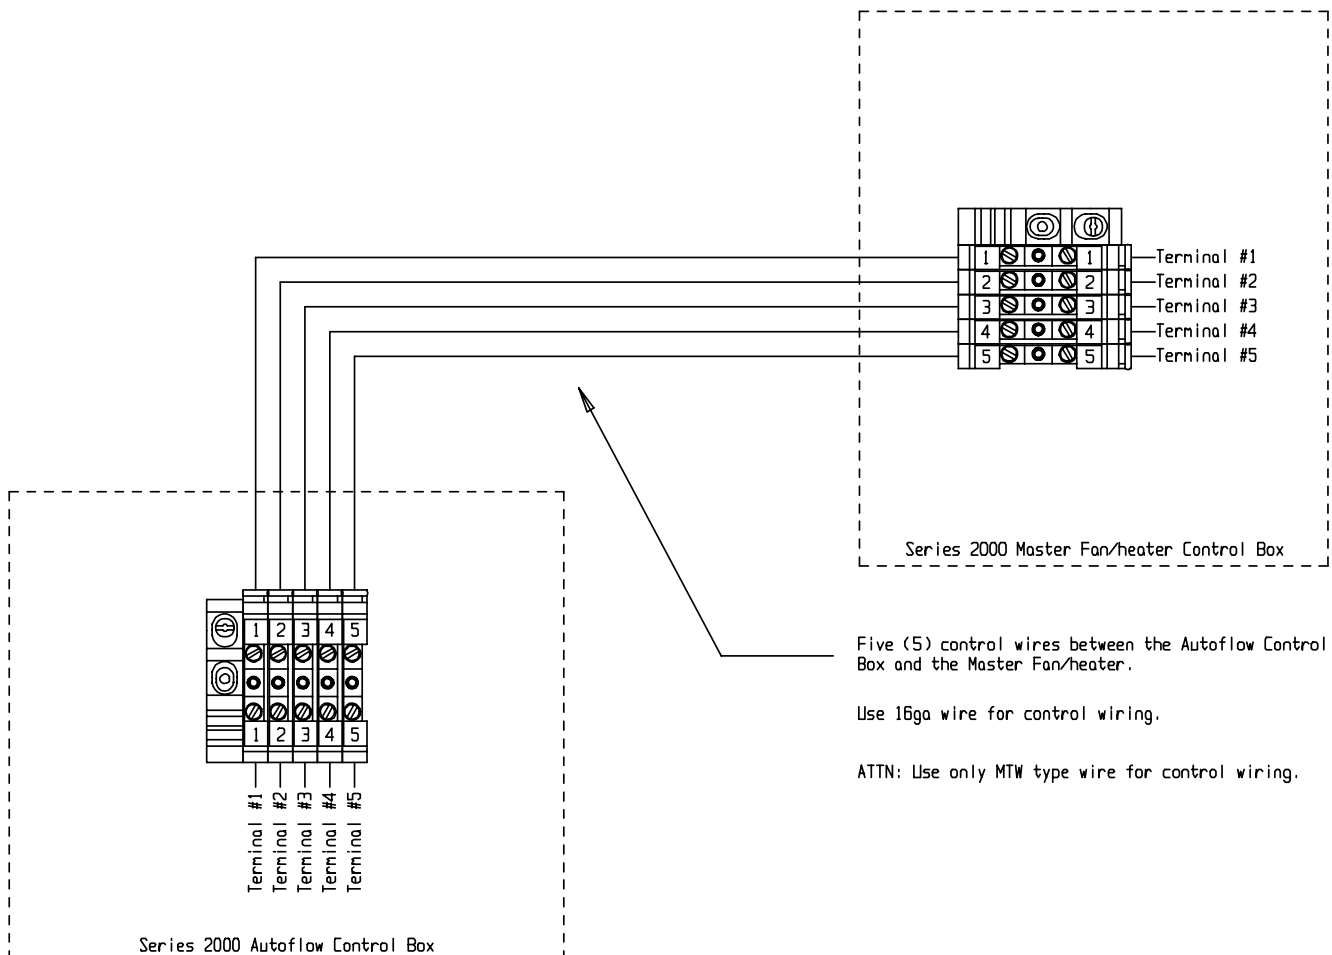

Figure 19
- 1) Run five (5) control wires from the Autoflow Control Box to the Master Fan/Heater Unit.
- 2) Connect the wires as shown in figure 19.